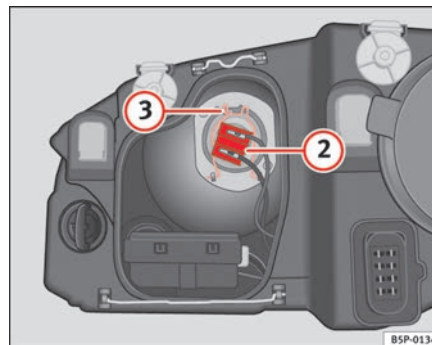

Fig. 161 Dipped head-lights
- Remove the connector ⇒ page 246, fig. 161 ② from the bulb.
- Disengage the retainer spring ⇒ page 246, fig. 161 ③ pressing inwards to the right.